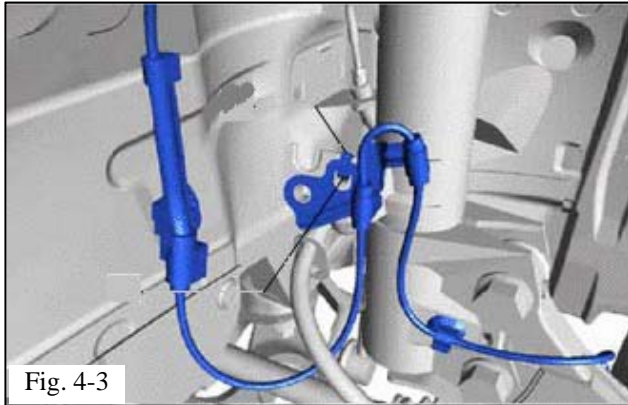
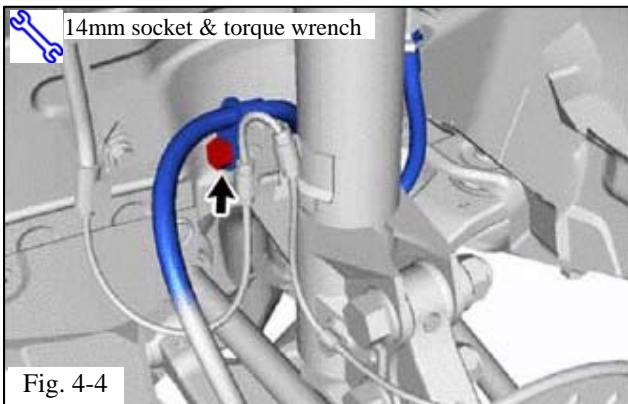

Fig. 4-3
Fig. 4-4
(1) Install the sensor wire and hose to the front shock absorber with the bolt removed in Step 1(h)(1) (Fig. 4-3 & Fig. 4-4)).